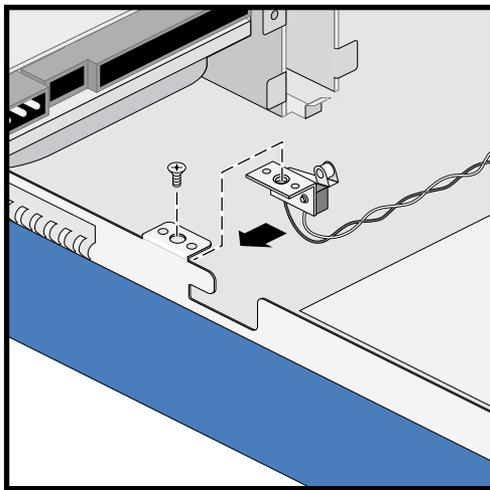

Figure 2-25 Installing the Intrusion Alert Microswitch Cable Module
1. Set the intrusion alert microswitch cable module in place and secure it with one screw as shown in Figure 2-25.